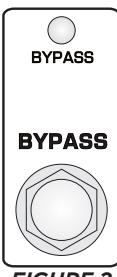

FIGURE 2
3. Press the **BYPASS** switch so the **BYPASS LED** turns green (**Figure 2**). This means the effect is **ON**. If you press and hold the **BYPASS** switch, you'll see the LED change from red to orange or green. Orange or green indicate that the effect is on but in different modes. For now we'll focus on Normal.